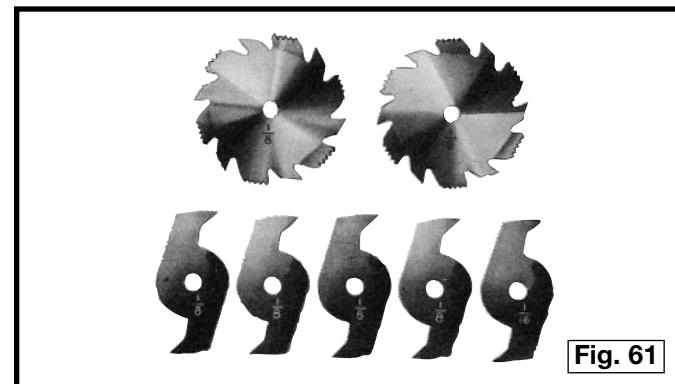
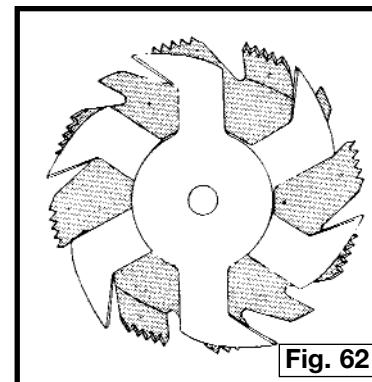
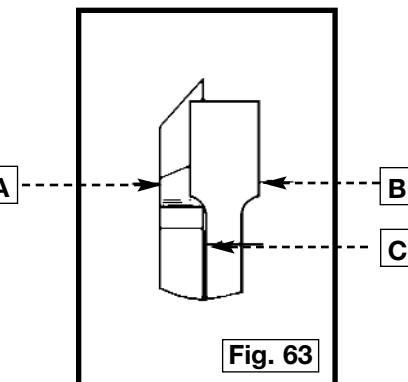

Fig. 61
Fig. 62
Fig. 63
1. Dadoing is cutting a rabbet or wide groove into the work. Most dado head sets are made up of two outside saws and four or five inside cutters, (Fig. 61). Various combinations of saws and cutters are used to cut grooves from $1/8"$ to $13/16"$ for use in shelving, making joints, tenoning, grooving, etc. The cutters are heavily swaged and must be arranged so that this heavy portion falls in the gullets of the outside saws, as shown in Fig. 62. The saw and cutter overlap is shown in Fig. 63, (A) being the outside saw, (B) an inside cutter, and (C) a paper washer or washers, used as needed to control the exact width of groove. A $1/4"$ groove is cut by using the two outside saws. The teeth of the saws should be positioned so that the raker on one saw is beside the cutting teeth on the other saw.